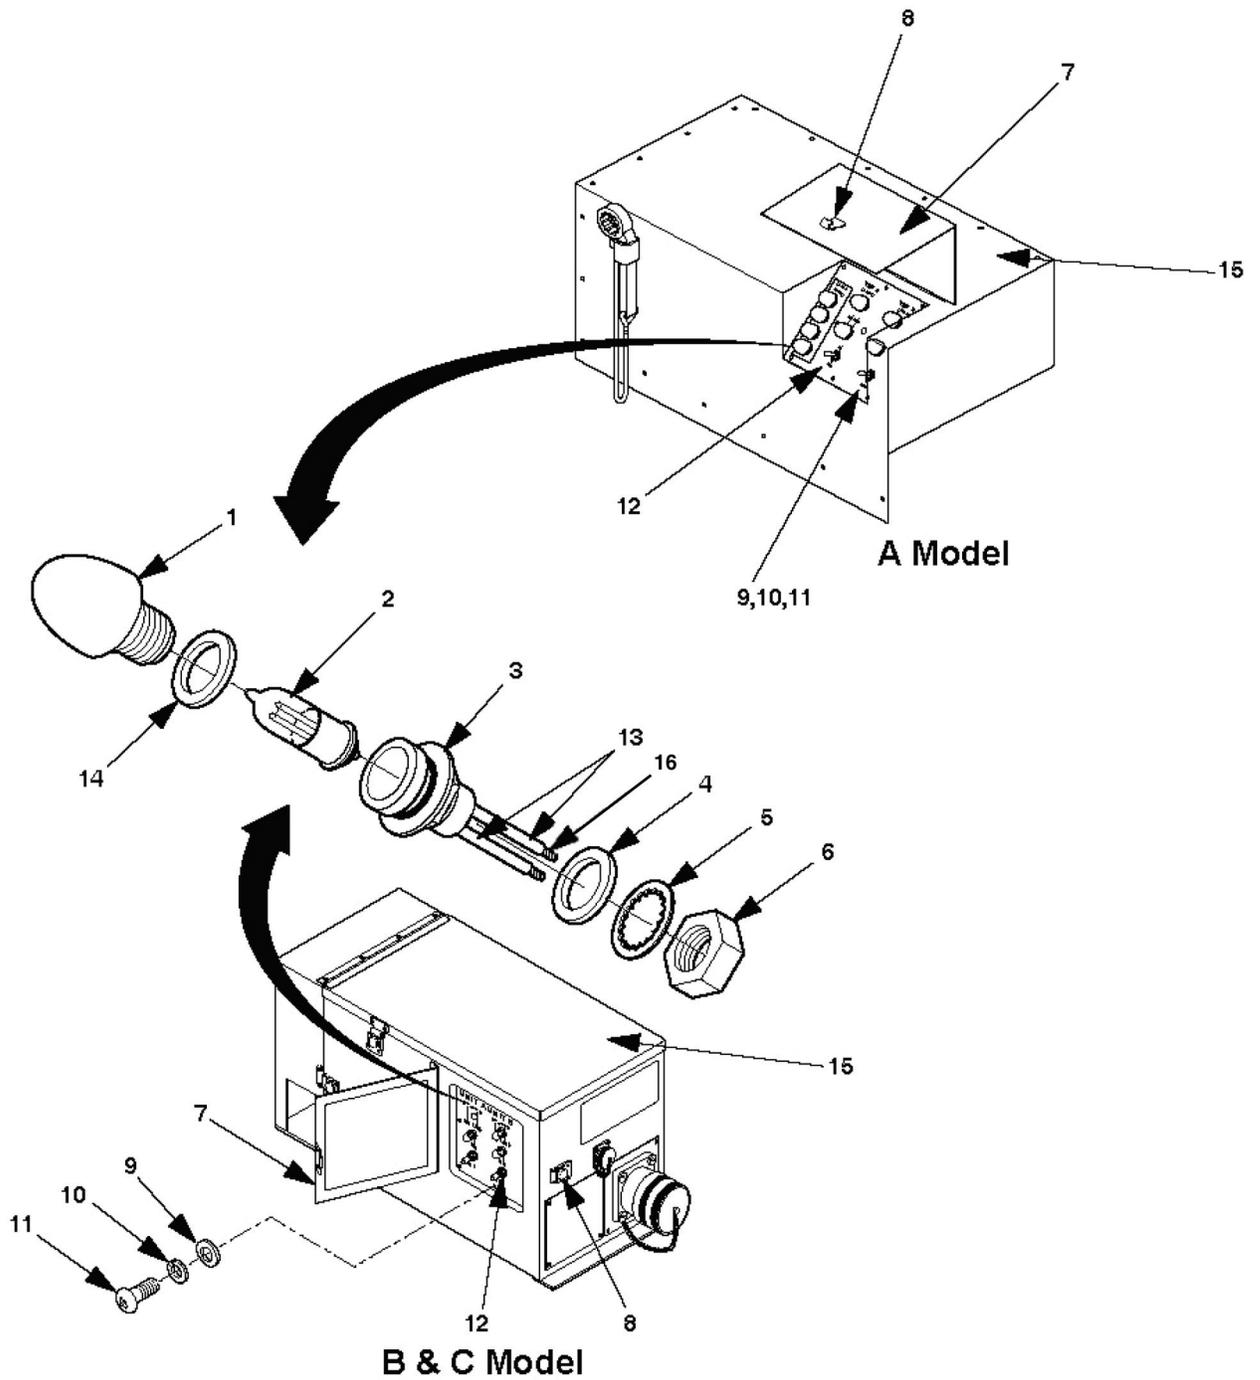

Figure 4-14. Indicator Light Replacement
1. Release clamping catch (8, figure 4-14) and open control panel access cover (7).
2. Remove screws (11), flat washers (9), lock washers (10) and control panel assembly (12). Discard lock washers (10).
3. Tag leads (16) connected to each terminal of indicator lamp housing to be replaced, peel back heat shrink tubing (13), and unsolder each lead.
4. Remove and discard heat shrink tubing (13) from leads (16).
5. Remove and retain lens (1), O-ring (14), and lamp (2).
6. Remove mounting nut (6) and internal tooth lock washer (5).
7. Slide indicator housing (3) out of control panel assembly (12) and remove O-ring (4).